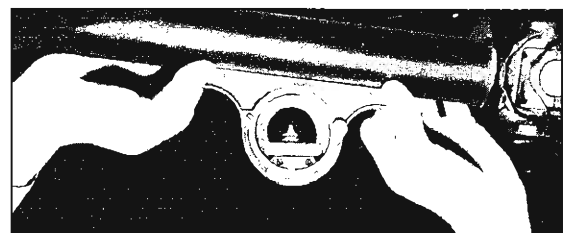

Fig. 52—Measuring Propeller Shaft Angle
4. Using a bubble protractor, obtain propeller shaft angle (fig. 52).